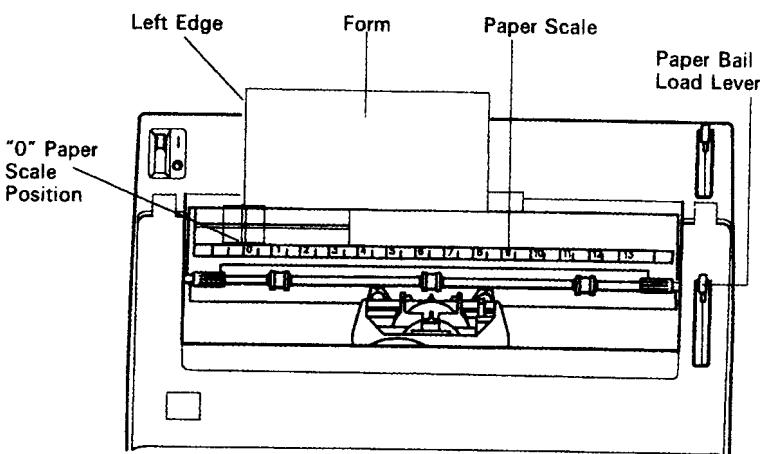

Figure 2-1.
3. Place the left edge of the form in the typewriter at the **0** paper scale position. (See Figure 2-1.)
3. Place the left edge of the form in the typewriter at the **0** paper scale position. (See Figure 2-1 on page 2-31.)
2. Place the left edge of the continuous form in the typewriter at the **0** paper scale position. (See Figure 2-1 on page 2-31.)